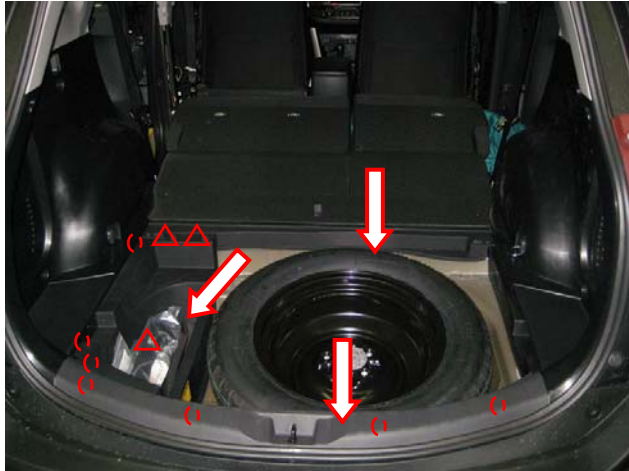

Figure 1-22
c) Disengage the jack storage tray clips & push pins on the driver side and remove tray (Figure 1-22).
d) Remove spare tire and styrofoam insert (Figure 1-22).
e) Remove rear threshold plate (Figure 1-22).